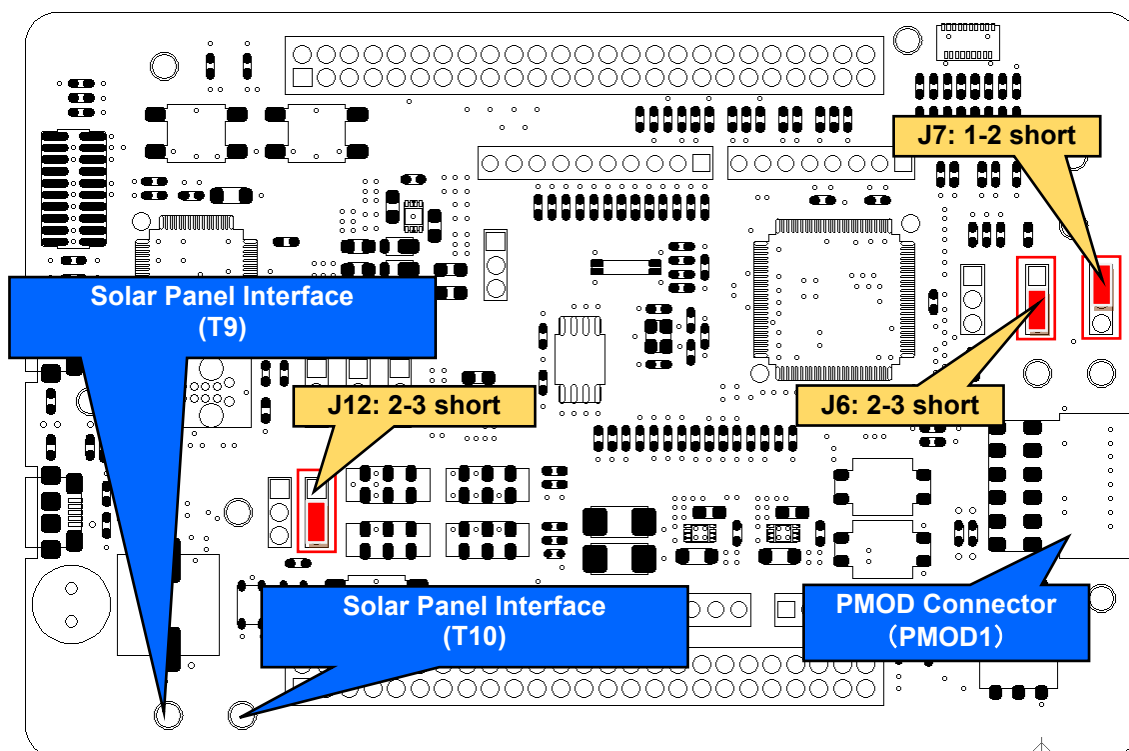

Figure 5-9: Component Layout and Settings (EHC Operation)
2. Follow the settings shown in **Figure 5-9** and **Table 5-9**.